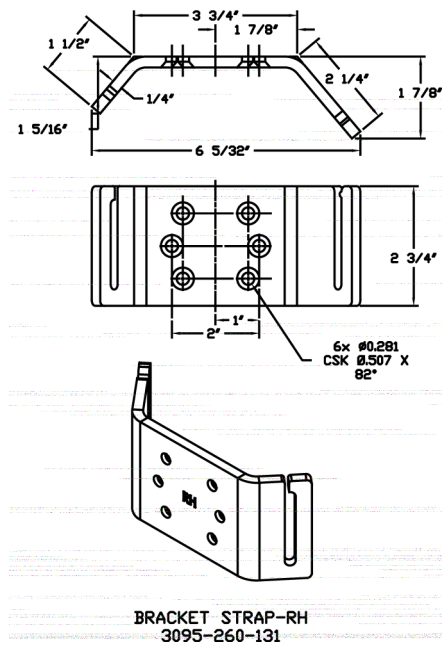

Figure 4A - Strap Bracket - Right Hand
4. Figures 4A & 4B show the overall size and dimensions for the Strap Brackets (4 & 5).